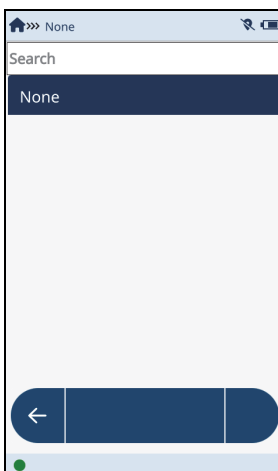

Figure 2-64 None confirmation
3. Tap **None** on the next screen to confirm the selection (see Figure 2-64 on page 79).